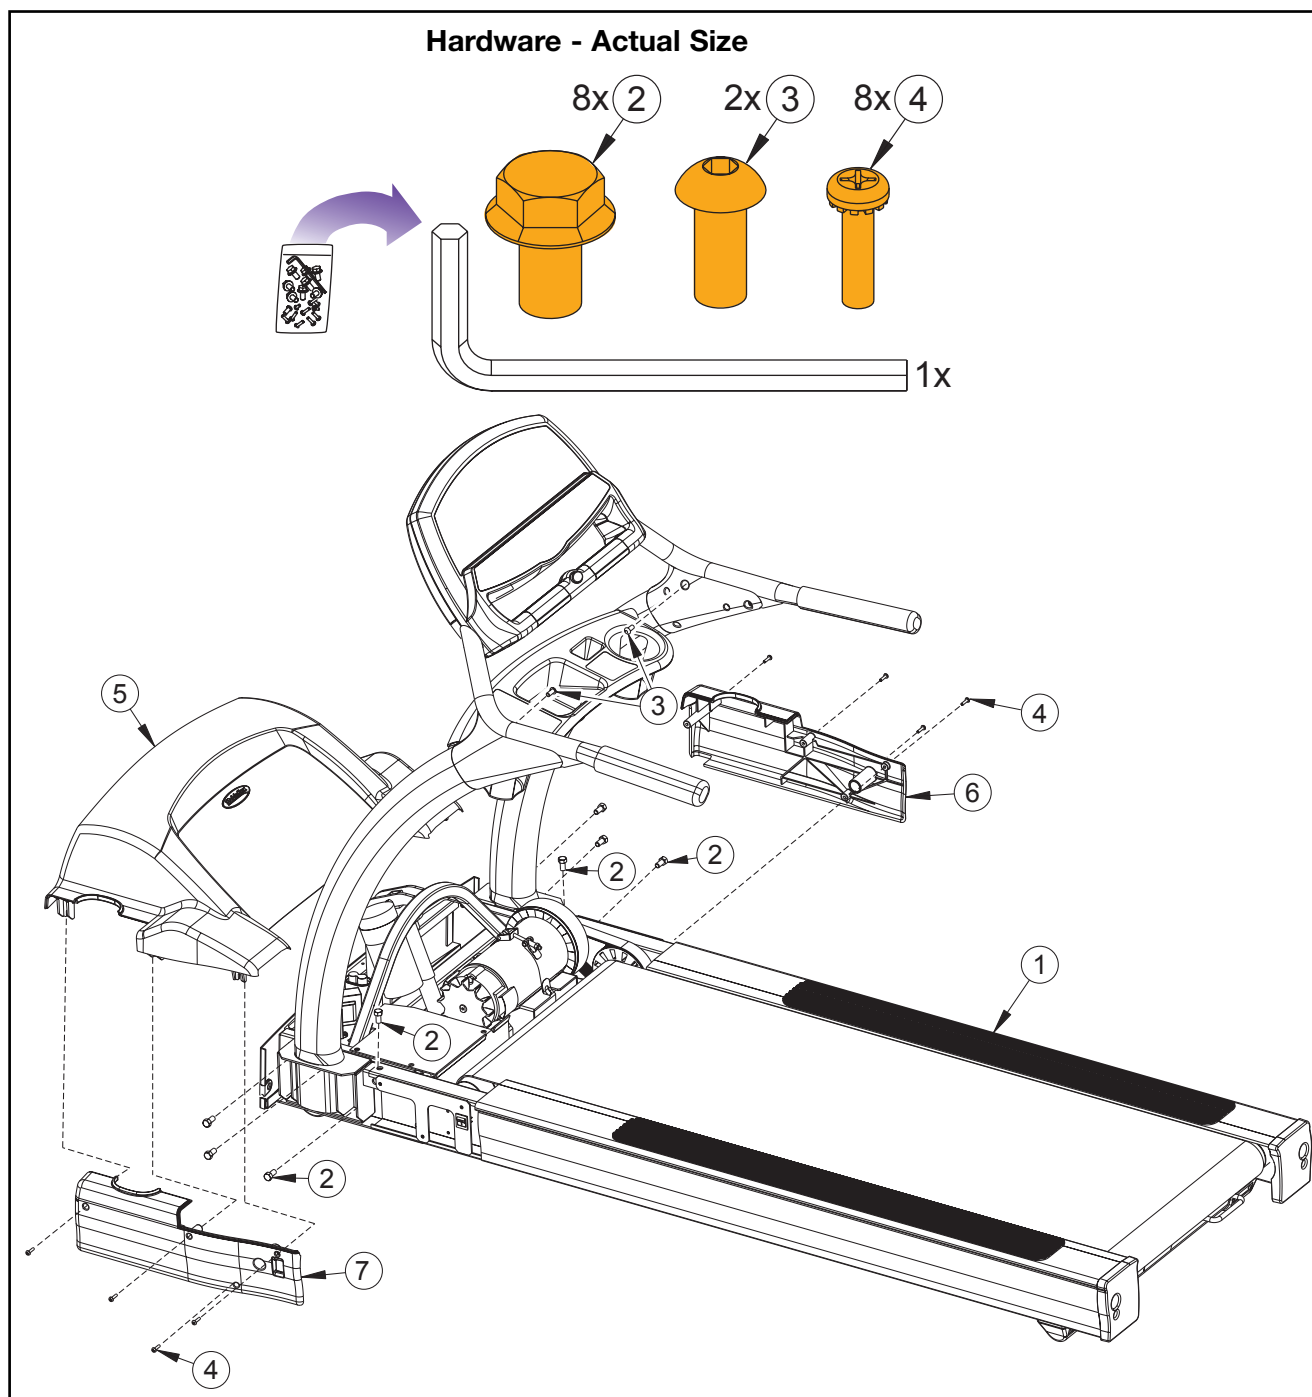

Figure 2
C. Check off (✓) each item in the hardware pack as you find it. See Figure 2.